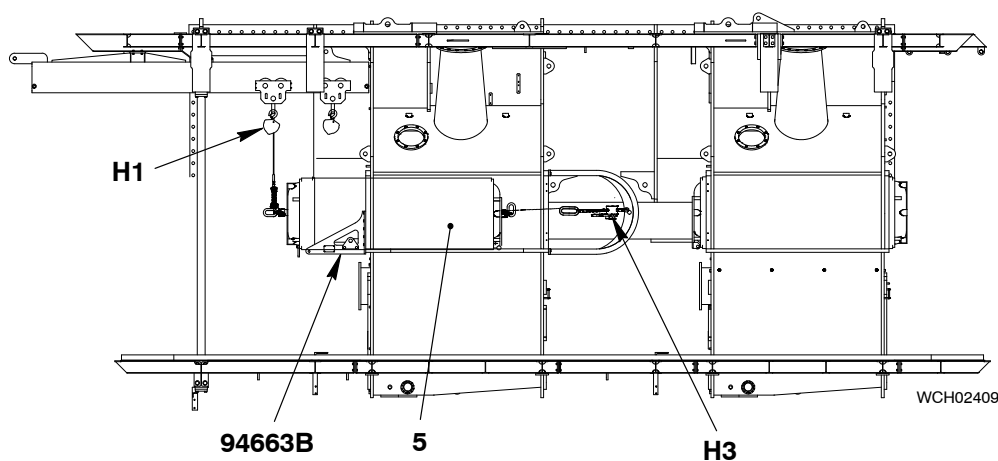

Fig. 21
- 11) Attach the manual ratchet (H3) to the support (94663I) and the center rear swivel lug on the SAC (5).
- 14) Operate the manual ratchet (H3, Fig. 21) to move the SAC (5) into the scavenge air receiver. At the same time, move the chain block (H1) until the SAC is in the position shown.
- 15) Remove the chain block (H1) from the double-chain sling on the SAC (5).